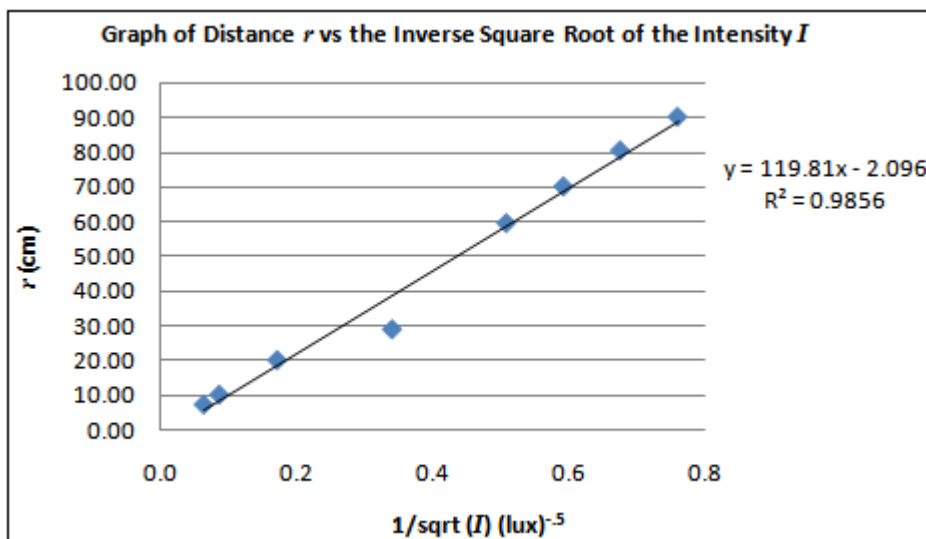
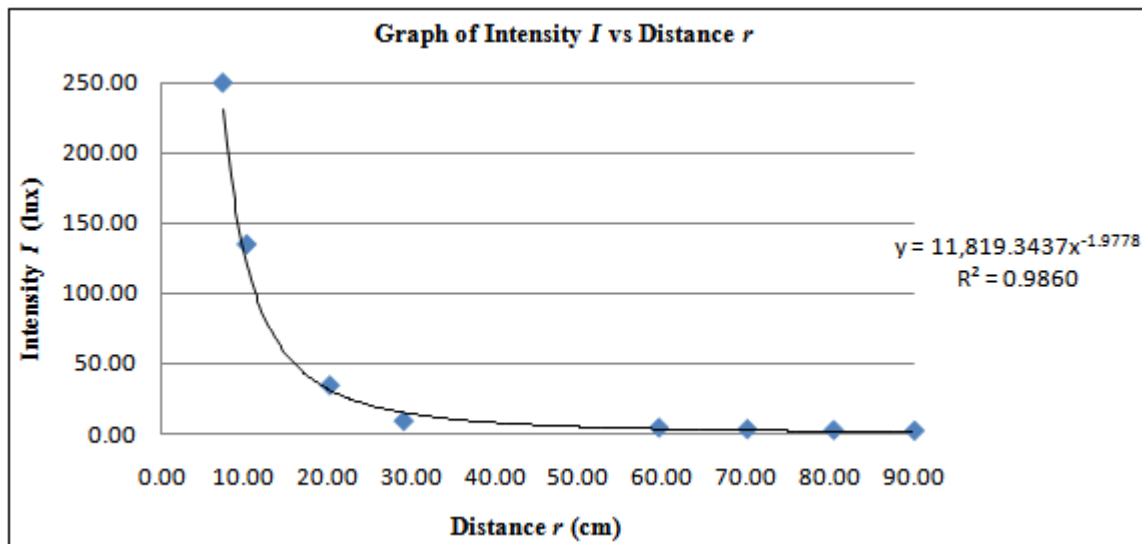

Figure 4. Graph of distance r vs the inverse square root of intensity I .
Figure 7. Graph of intensity I vs distance r with the “Bad” data point included.
Including the “non-linear” data (Figure 7) results in a value with a larger departure from r^2 . The power P is less too. Note the similarity of the coefficient of determination in Figures 4 and 7.
4. Give a possible explanation why the percent error is higher in question 2 compared to question 3? Use Figure 4 as a guide in answering this.
7. By comparing graphs and trend line data from Figures 7 & 11, what statement would you make regarding the possible presence of any large measurement errors in the data collected for Malus's Law?